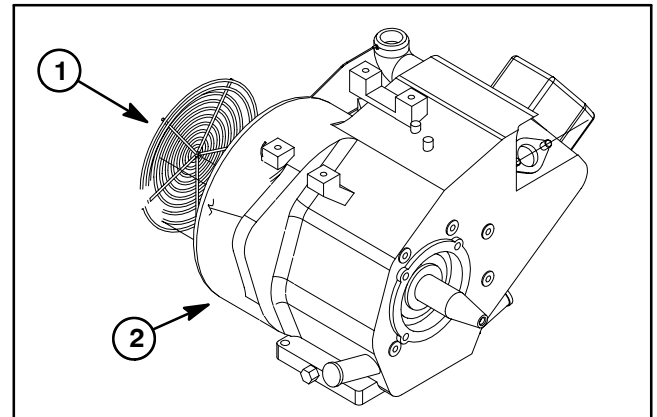

Figure 3
5. Clean static debris screen and blower housing of dirt and debris. Remove screen and housing if necessary (Fig. 3).